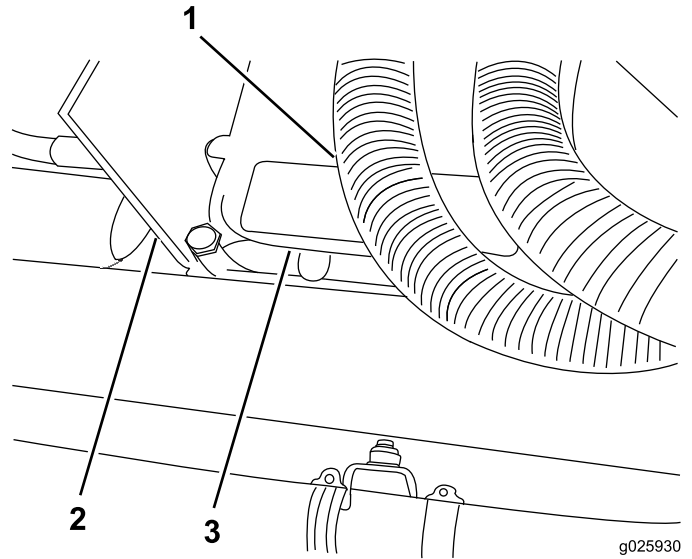

Figure 19
2. For model 1750, connect the wiring harness to the electronic controller by routing the wiring harness under the cover (Figure 19).